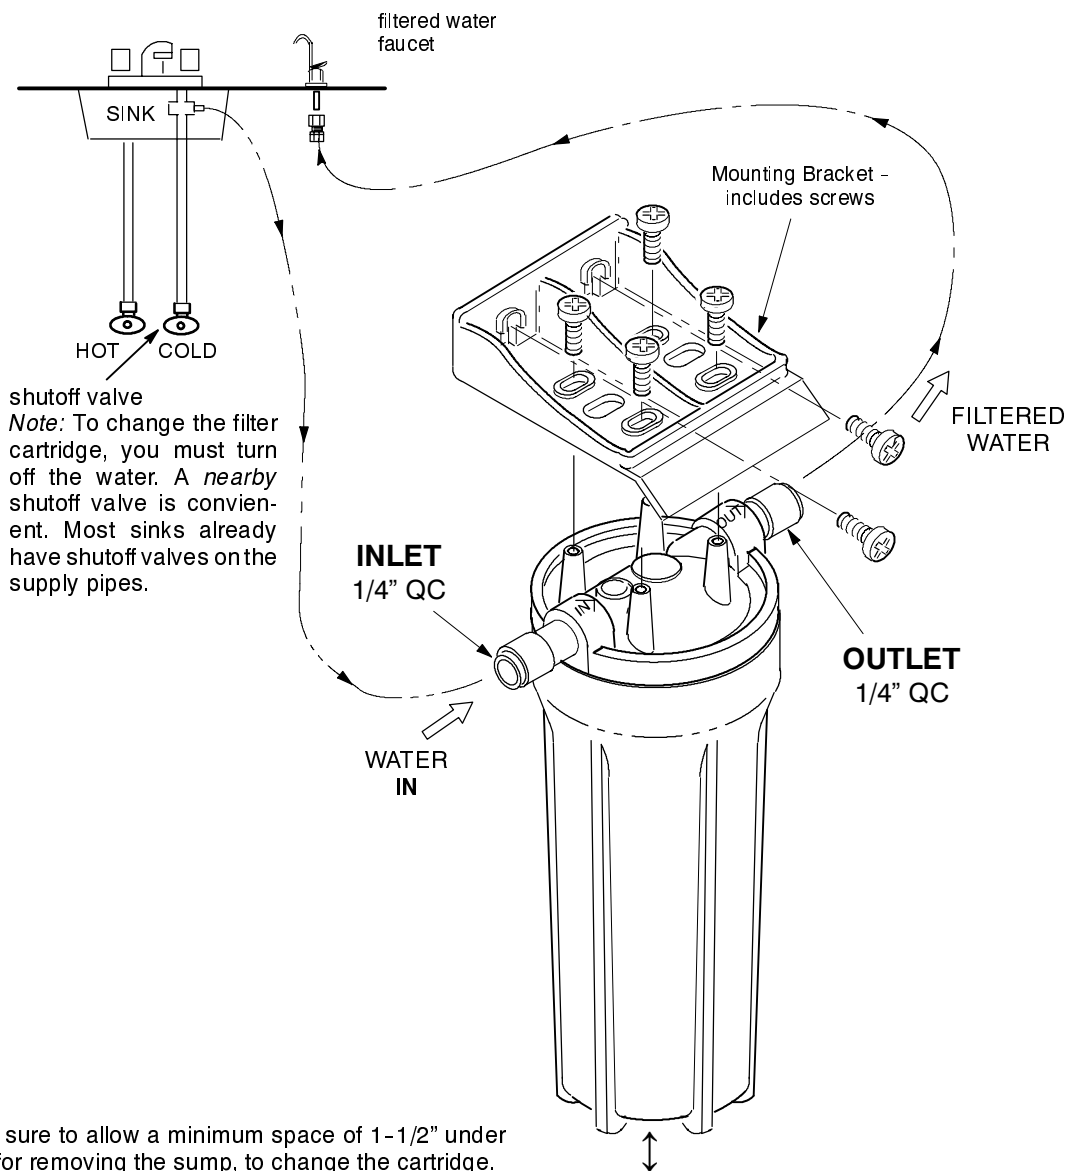

Figure 1
1. Allowing some slack, measure and cut a length of 1/4" tubing to connect between the supply fitting and the filter system inlet, Figure 1. Use a sharp cutter or knife to cut the end of tubing square.